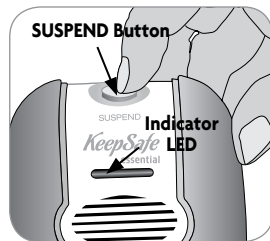

Fig. 7
1. With the magnet disconnected from the front of the alarm (as in an unauthorized patient exit), press the SUSPEND button on the top of the alarm (fig. 7) until the monitoring indicator LED flashes RED.